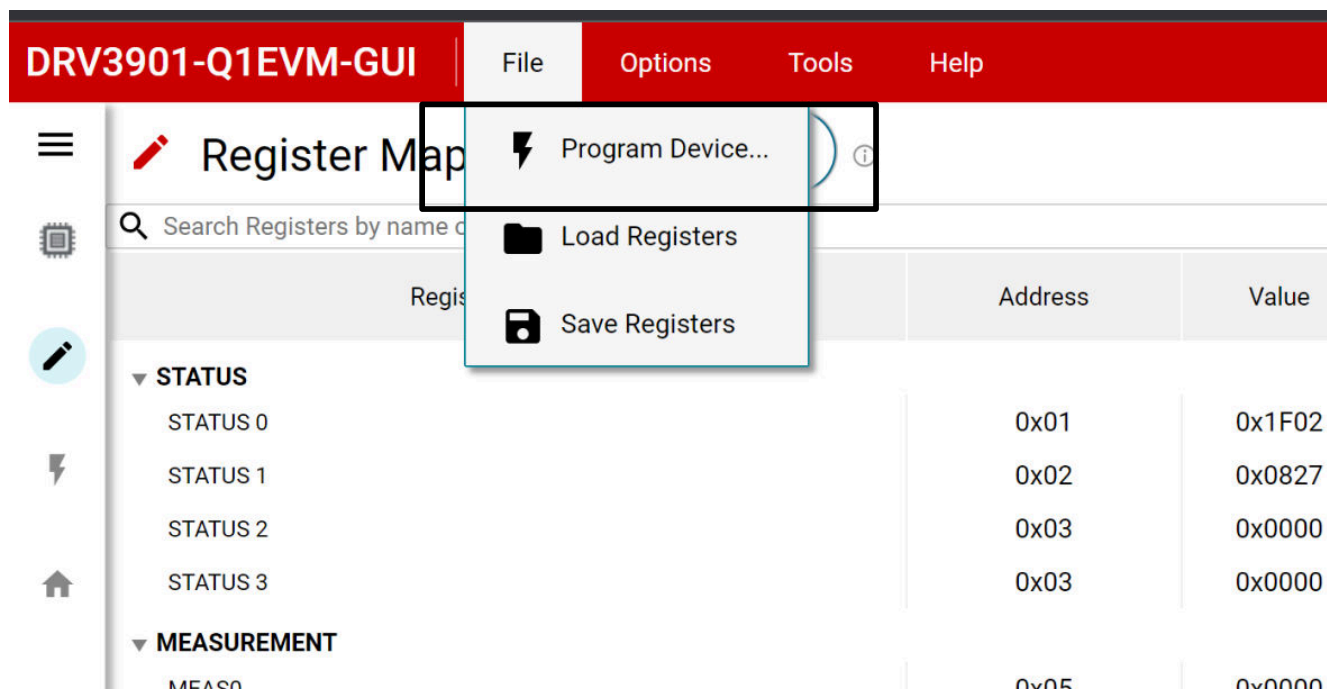

Figure 5-3. Programming the EVM
3. Click on File -> Program Device to begin programming the EVM (see Figure 5-3). A pop-up small window will appear showing the firmware flashing progress. If there are any errors, it will display a message. If no errors, there will be a display indication the flashing was successful.
4. The GUI will attempt to connect to the EVM. After successfully connecting, the page will resemble Figure 5-3. If connection is not successful, follow instructions in Section 4.1 and Section 4.2.